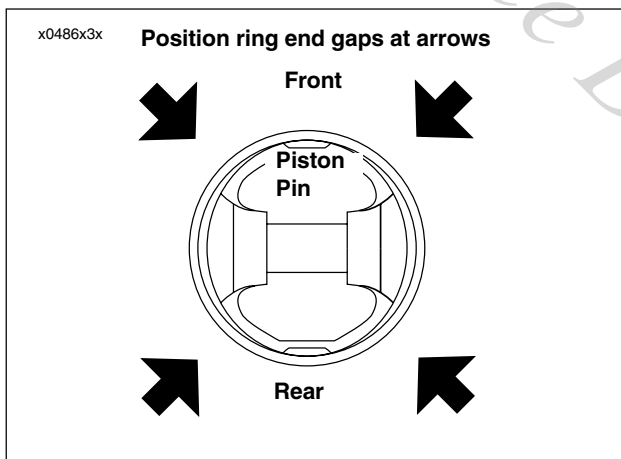

**Figure 3-99. Measuring Ring Clearance in Groove**
- See Figure 3-99. Check for proper side clearance with thickness gauge, as shown. See 3.1 SPECIFICATIONS.